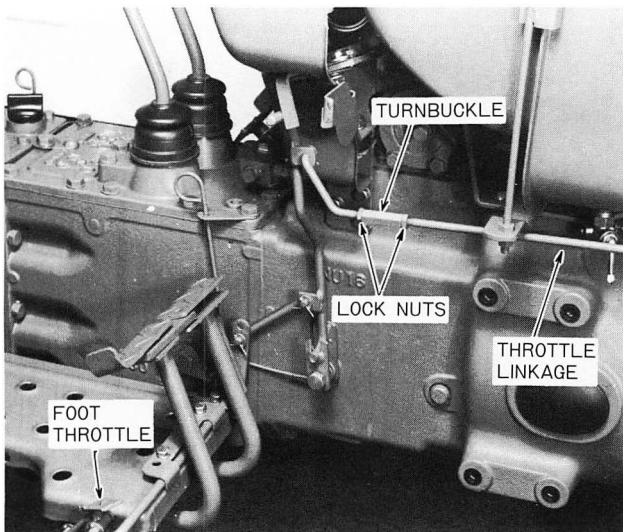

Figure 52 – Throttle Adjustment
1. Loosen the lock nuts, Figure 52.